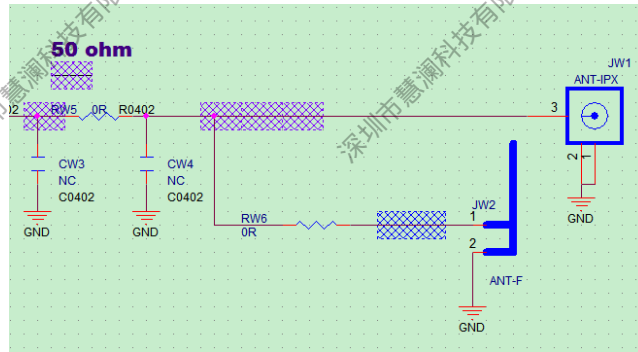

Figure 2-39 WiFi Antenna Matching Circuit
- The antenna of WiFi needs to reserve π -type circuit for antenna impedance matching. As shown in Figure 2-39.